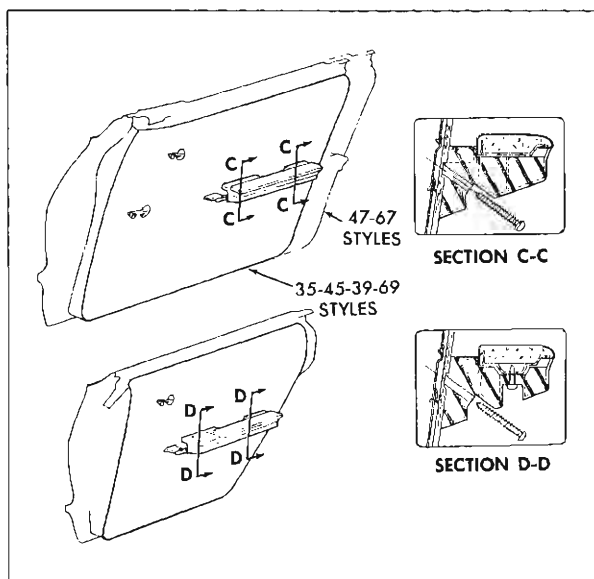

Fig. 3-5 Door Arm Rest Assemblies
1. Remove screws securing arm rest to door inner panel and remove assembly from door (see Fig. 3-5).